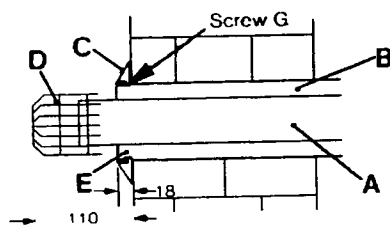
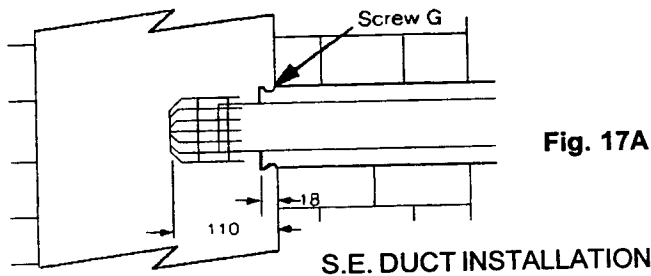

Fig. 17
Fig. 17A
Separate the two tubes by removing screw G (fig. 17).
5.5.8 Ensure inner and outer terminal tubes are firmly fitted together with screw G fig. 17. Push the terminal tubes through the wall until the face of the outer tube protrudes 18mm from the face of the wall (fig. 17). The terminal grill (D) will then protrude 110mm from the wall face.
5.5.15 Check also that the outer end of the flue projects as indicated in fig. 17 or fig. 17A if installed in a S.E. duct.
- 5.5.18 Seal the peripheral gap around the outer tube with cement or mastic and slip the cosmetic flexible plastic collar (fig. 17) item C) into groove on the pipe. This operation can only be carried out with external access. Seal the internal wall face around the air duct.
- NOTE: The two tubes must be separated by removing screw G fig. 17 before cutting.